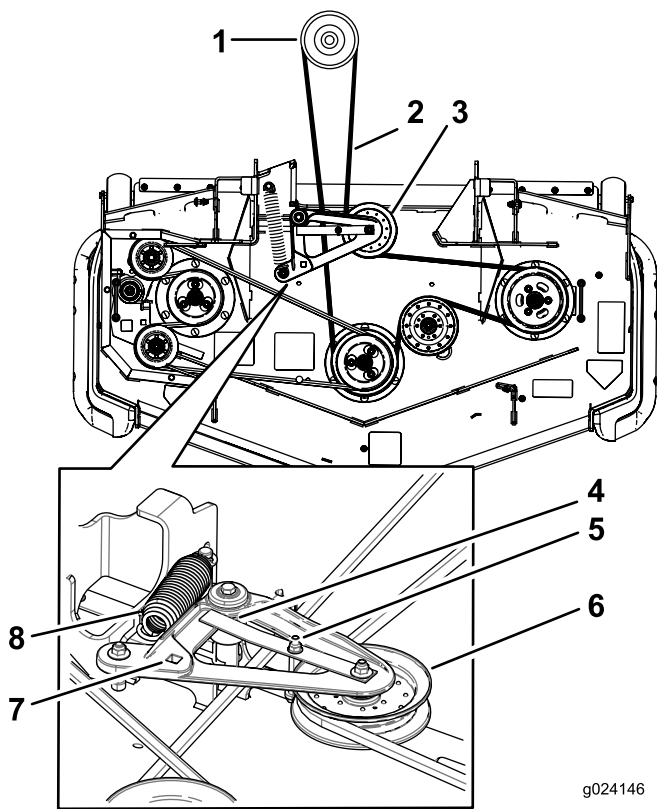

Figure 120
5. Lift up the floor pan and insert a ratchet into the square hole in the deck idler (Figure 119 or Figure 120).
6. Rotate the deck idler clockwise, lift up on the belt-guide tab (rear-discharge machines only), and remove the mower belt (Figure 119 or Figure 120).